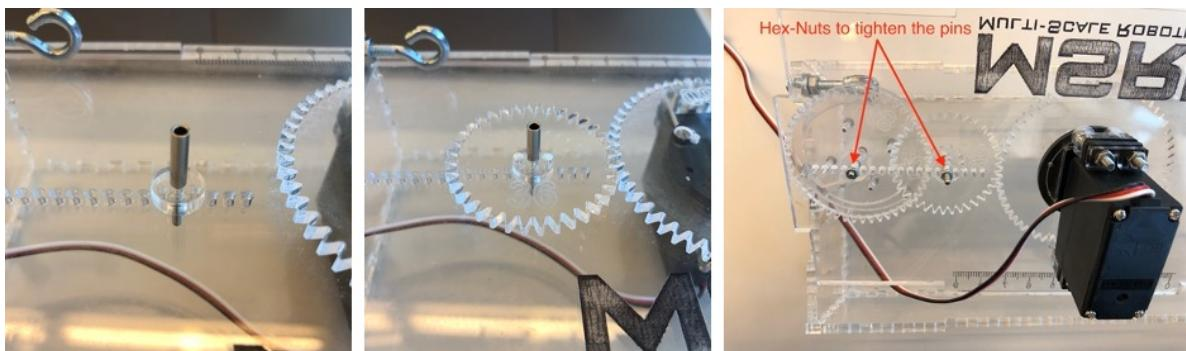

Figure 4.8: Put the pins on top of the spacers and then the gear on top of that to determine its placement on the box. Then use hex nuts to tighten the pins.
3. Use a combination of gears to increase the force that you can apply on the spring, in order to get at least 1.5 times the deflection that you had before. The amount of teeth are engraved on the gears, so you do not have to count them. Determine the adequate gear multiplications that are needed and implement it on the servo box. Use the pins, transparent spacer disks and hex nuts to place the gears on their correct spots as explained in Figures 4.8. Keep in mind that as you increase the torque you also reduce the maximum run length of the system. So you might end up with 4 times the force, which would easily pull the spring far enough, but having  $\frac{1}{4}$  the run length you will not get far enough. Do not worry if you get slightly different values than your neighbouring teams, as the setups can and will vary. Write down the gear ratio that you used, as well as the calculations and thought process how you got to those values. Record a video of the longer displacement to show your assistants. Watch the video at the end of the lecture recording in order to see what it should look like. (**PostLab Q4**)